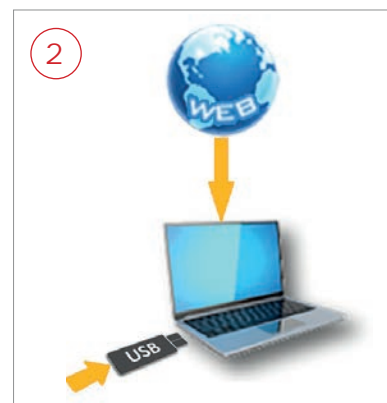

Fig. 13
- 2) Insert the USB PEN DRIVE into a PC connected to the internet (Fig. 13).